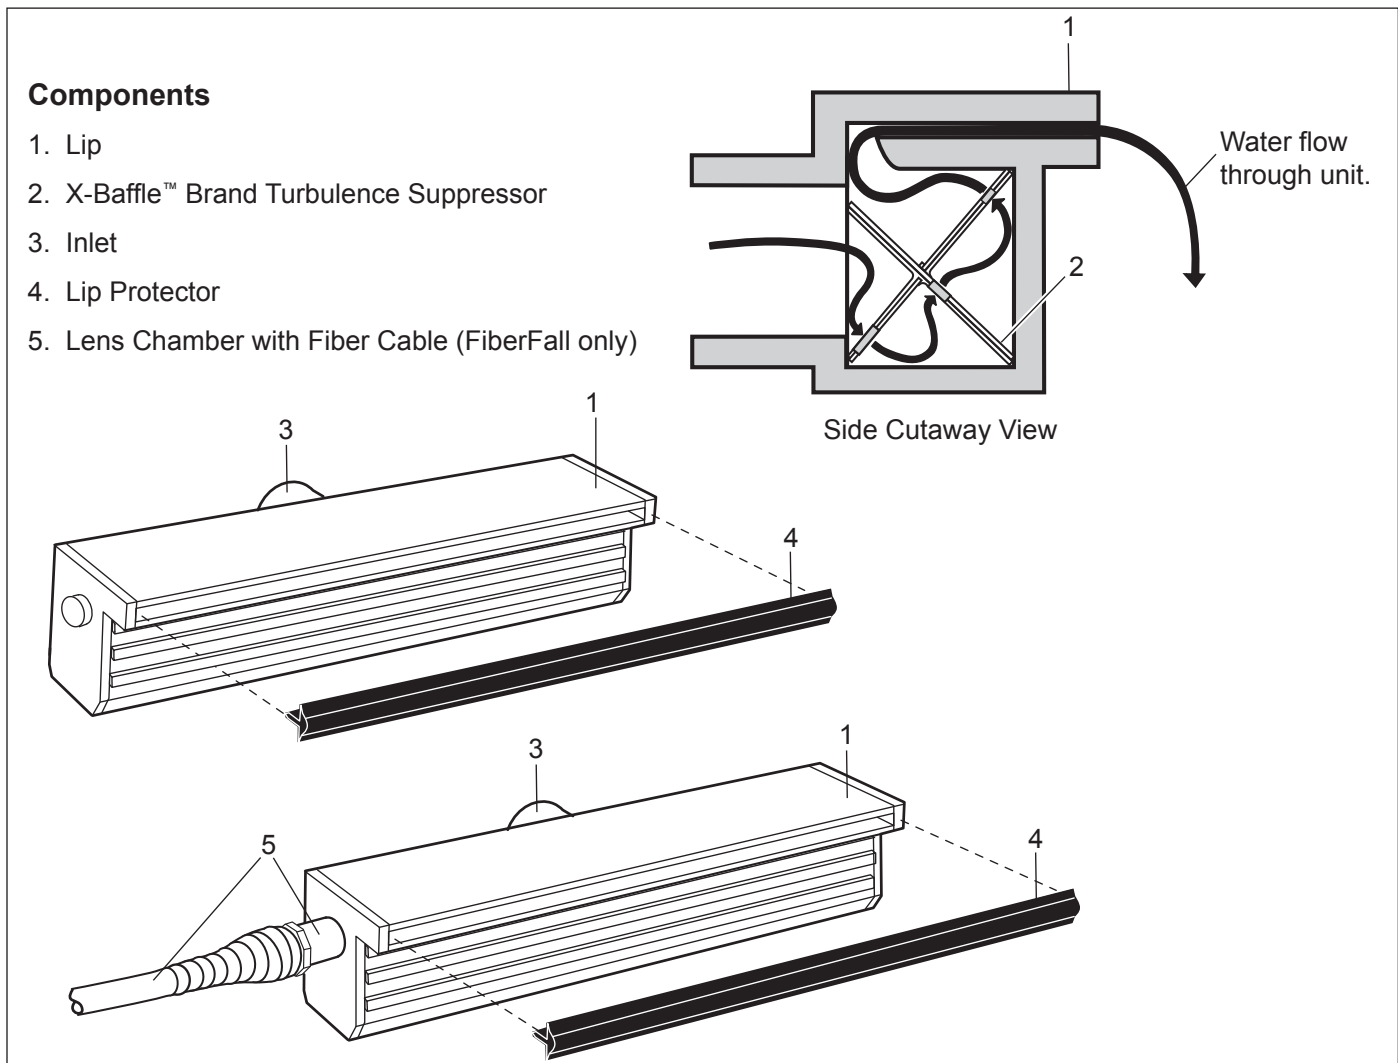

Figure 2. Sheer Descent and FiberFall Components
- The system **must** be built to include at least two (2) suction outlets (drains) connected to the pump whenever the pump is running. However, if two (2) main drains run into a single suction line, the single suction line may be equipped with a valve that will shut off both main drains from the pump. The system shall be constructed such that it shall not allow for separate or independent shutoff or isolation of each drain. See "Figure 2. Typical Piping Installation".
- More than one (1) pump can be connected to a single suction line as long as the requirements above are met.
- If 100% of the pump's flow comes from the main drain system, the maximum water velocity in the pump suction hydraulic system must be six (6) feet per second or less, even if one (1) main drain (suction outlet) is completely blocked. The flow through the remaining main drain(s) must comply with the latest version of ANSI/ASME A112.19.8, the standard for Suction Fittings For Use in Swimming Pools, Wading Pools, Spas, and Hot Tubs, or its successor standard, ANSI/APSP-16.
- **Fittings** - Fittings restrict flow; for best efficiency use fewest possible fittings (but at least two (2) suction outlets).
The Sheer Descent waterfall is available in standard sizes from 1 foot to 8 feet in length and is shipped complete with lip protector installed in the opening of the waterfall. See Figure 2. The lip protector keeps the spillway opening clean and damage free. **DO NOT REMOVE THE LIP PROTECTOR** until the startup of the pool equipment. The lip protector must be left in